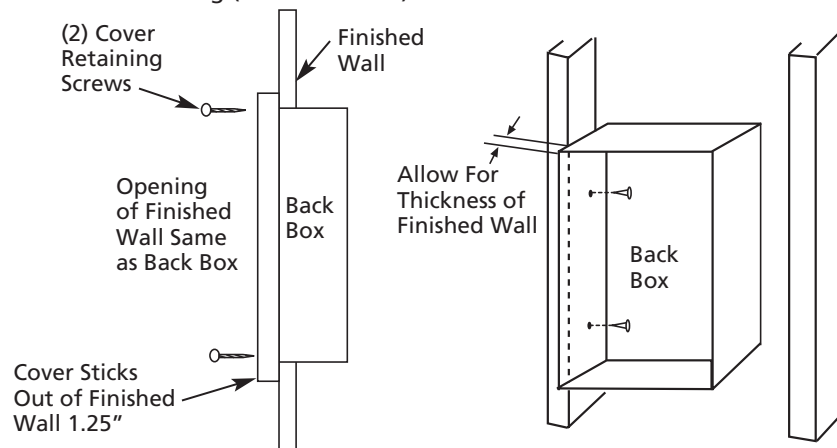

Figure 2
1. Determine which side of the back box is to be mounted against a stud or ceiling joist (see Figure 2). Allow for the thickness of the finished surface when installing the back box. The edge of the back box must be installed flush with the finished surface. Markings on the side of the back box for 1/2" or 5/8" finishing wall are provided.
3. Position the back box on the stud or joist location desired and secure using two nails or screws as shown in Figure 2.
**NOTE B:** Lead holes for a #8 sheet metal screw have been provided in the sides of the back box (see Figure 2).
1. Determine which side of the back box is to be mounted against a wall stud or ceiling joist (see Figure 2).
- Fit the back box into the opening by sliding the supply wiring cable into position. Back box must be installed with front edge flush with the finished surface. Secure the back box to stud using two nails or screws through holes provided in back box (see Figure 2).